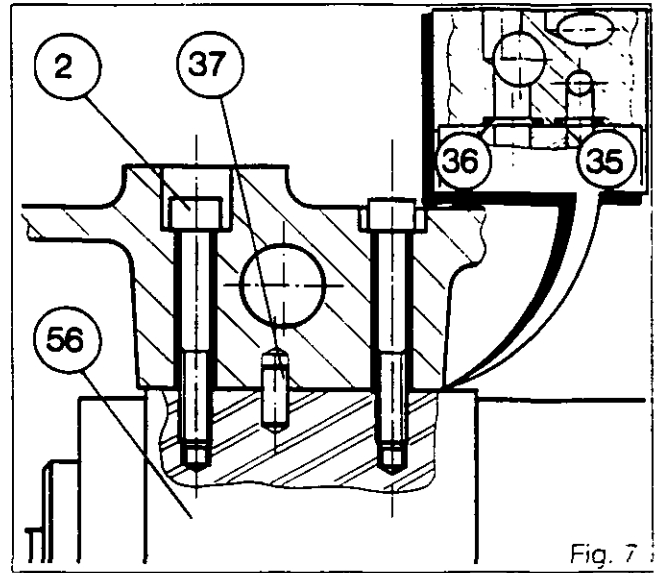

Fig. 7
#### Removal (Fig. 7)
95. Refit the pump on the dowels (37) (Fig. 7).
96. Smear the screws (2) with Loctite 221 and tighten them to a torque of 10 - 12 Nm (Fig. 7).